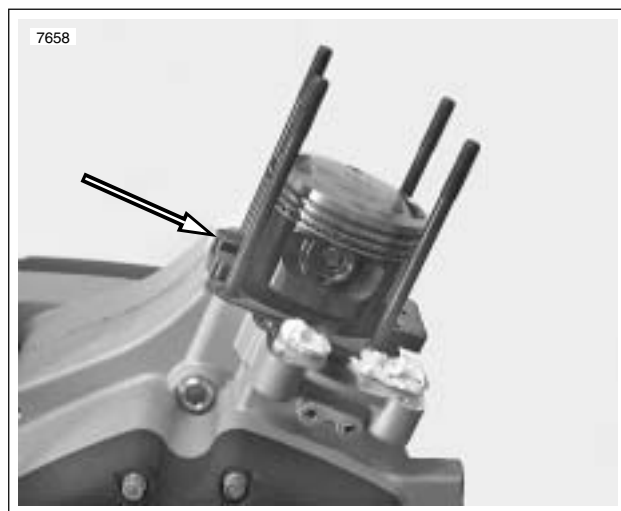

Figure 3-88. Piston Support Plate (Part No. HD-42322)
6. See Figure 3-88. Turn engine until piston is resting on top of PISTON SUPPORT PLATE (Part No. HD-42322) top dead center.